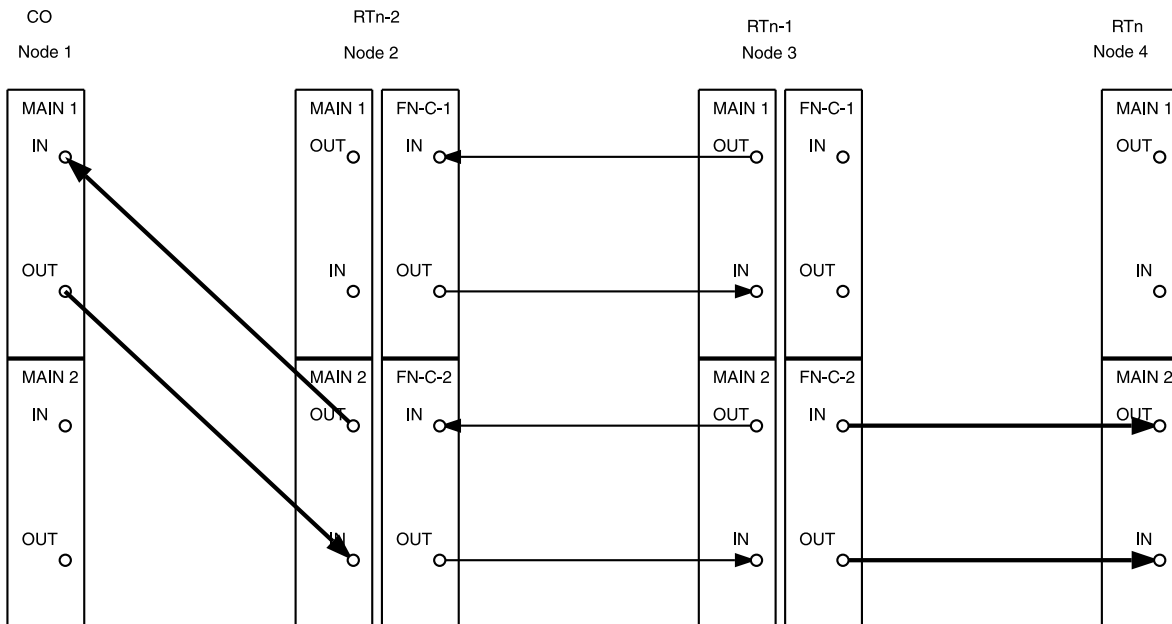

Figure 18 – DDM-2000 OC-3 Drop or Add/Drop Network to Ring Upgrade
29. At Node 1 (CO) and Node 2, disconnect fiber from **MAIN 2(P) OUT** at the CO and **MAIN 1 IN** at Node 2. Disconnect fiber from **MAIN 2(P) IN** at the CO and **MAIN 1 OUT** at Node 2. (See Figure 18.)
30. At the next-to-last Node (Node 3), use the **switch-line:fn-c:pri>manual** command to switch service to the protection line (**fn-c-2 OLIU** active at Node 3). At the last Node (Node 4), use the **switch-line:main:pri>manual** command to switch service to the protection line (**main-2 OLIU** active at Node 4). (See Figure 18.)
31. At the last Node (Node 4) and next-to-last Node (Node 3), disconnect optical fiber from **MAIN 1 OUT** at Node 4 and **FN-C-1 IN** at Node 3. Disconnect fiber from **MAIN 1 IN** at the Node 4 and **FN-C-1 OUT** at Node 3. (See Figure 18.)